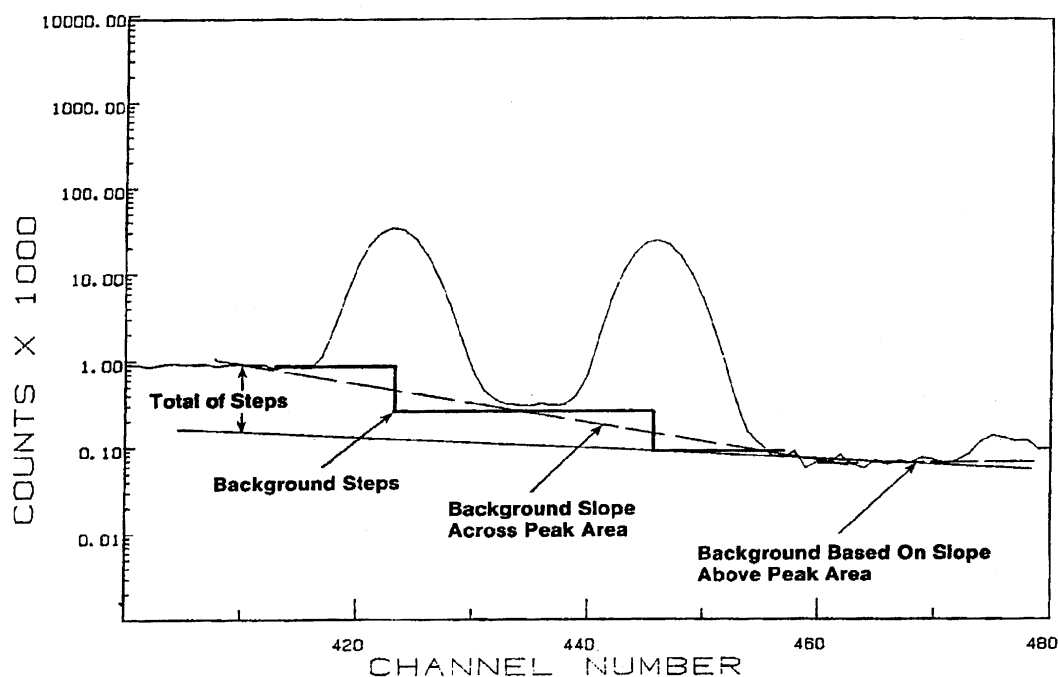

Figure 229. Stepped Background.
- 1) Stepped background is used if the slope of the peak background across the peak area is less than the slope of the background adjacent to the high-energy side of the peak. That is, if the background under the peak is declining faster than the background above the highest-energy peak in the background, the stepped background is selected; see Fig. 229.
The total height of the background steps is the difference between the background below the peak region and the value of the peak background above the peak region projected back to the background point at the low-energy end of the multiplet; see Fig. 229. The size of the step inserted at each peak centroid is proportional to the height of the peak. The result is then smoothed. This background is calculated after the deconvolution, the net spectrum is recalculated, and the deconvolution is repeated.